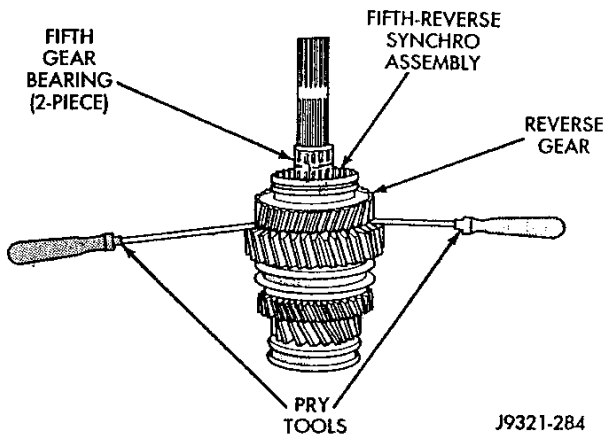

Fig. 20 Reverse Gear And Fifth-Reverse Synchro Removal
- (3) Remove two halves of fifth gear bearing from output shaft (Fig. 20).
(4) Remove reverse gear and fifth-reverse synchro assembly (Fig. 20). Use two large, flat-blade screwdrivers to pry components up and off mainshaft splines (Fig. 20). If gear and synchro proves difficult to remove, use a press and bearing splitter for removal.
(5) Remove reverse gear bearing from gear or output shaft.